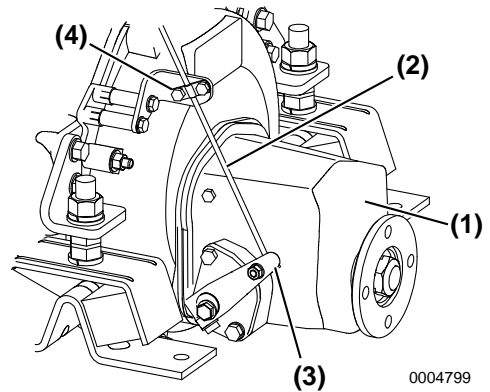

Figure 5
2. Use the NEUTRAL position as the standard for adjustment. When there is deviation, loosen the bracket **(Figure 5, (4))** for the remote control cable on the clutch side and adjust.